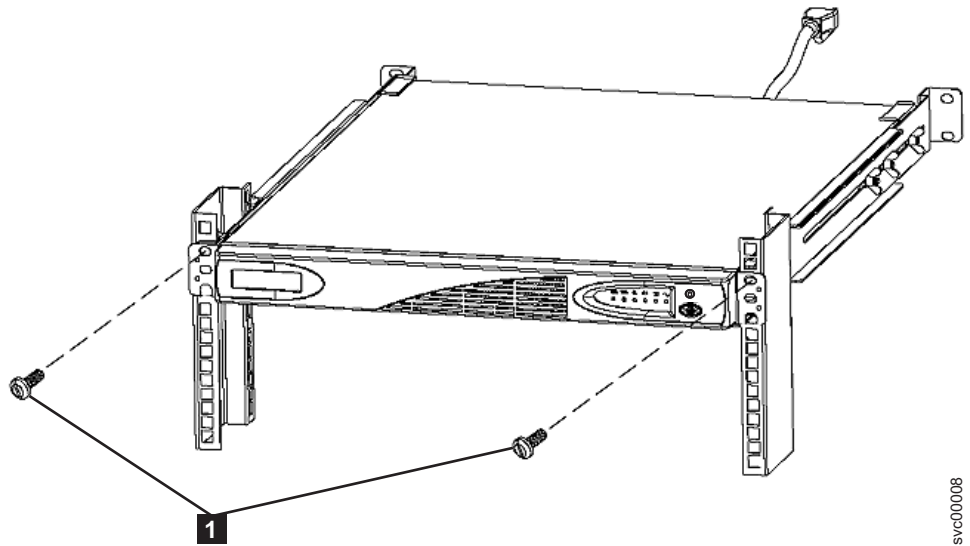

Figure 206. Mounting screws for the 2145-1U uninterruptible power supply
4. At the front of the 2145 UPS-1U, install the two mounting screws (**1** in Figure 206 on page 485).